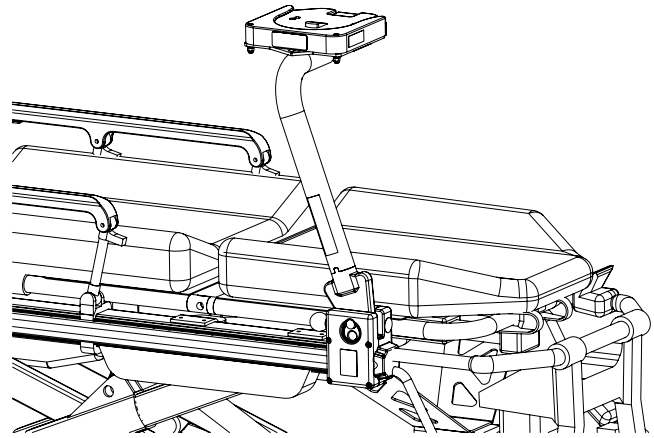

Figure 27: Installing the replacement Standard Surface Base on the tubular arm
3. Install the replacement Standard Surface Base and hardware coated with high strength thread lock adhesive (🔴) using a Phillips-head screwdriver and a wrench (Figure 27). Refer to steps 4 to 10 of the « Assemble the SAS 500 » section on page 30 if needed.